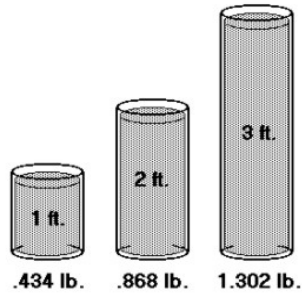

Figure 2 - 4th Principle of Pressure
- The fourth principle of pressure -the pressure of a liquid in an open vessel is proportional to its depth **[See Figure 2]**